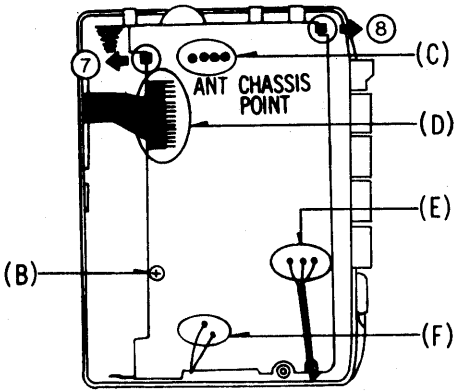

Fig. 5
**● Removal of ANT Chassis and Circuit Board (Fig. 5)**
1. Remove the screw (B) (2×6)mm×1.
2. Disconnect the solder (C).
3. Remove the ANT chassis in the direction of arrow (7), (8).
4. Remove the solder (D), (E), (F) from flexible P.C.B.